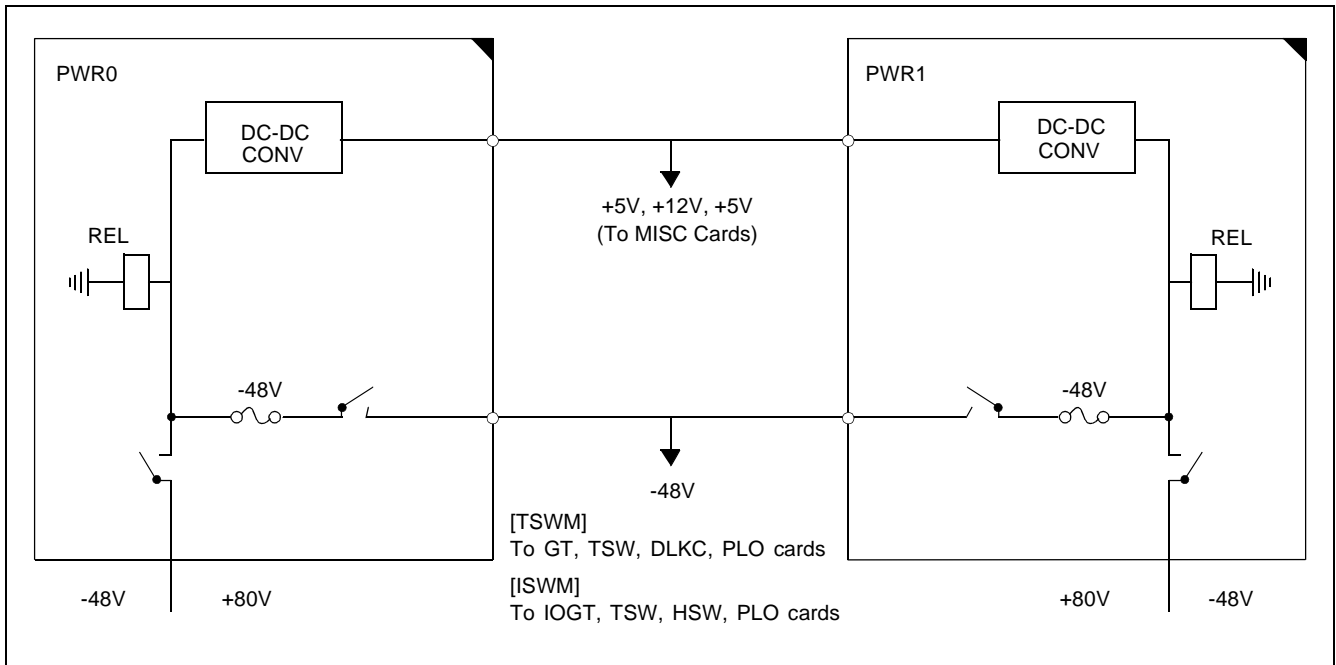

Figure 5-20 Power Supply to TSWM/ISWM
(6) Figure 5-20 shows the power supply system for TSWM/ISWM.